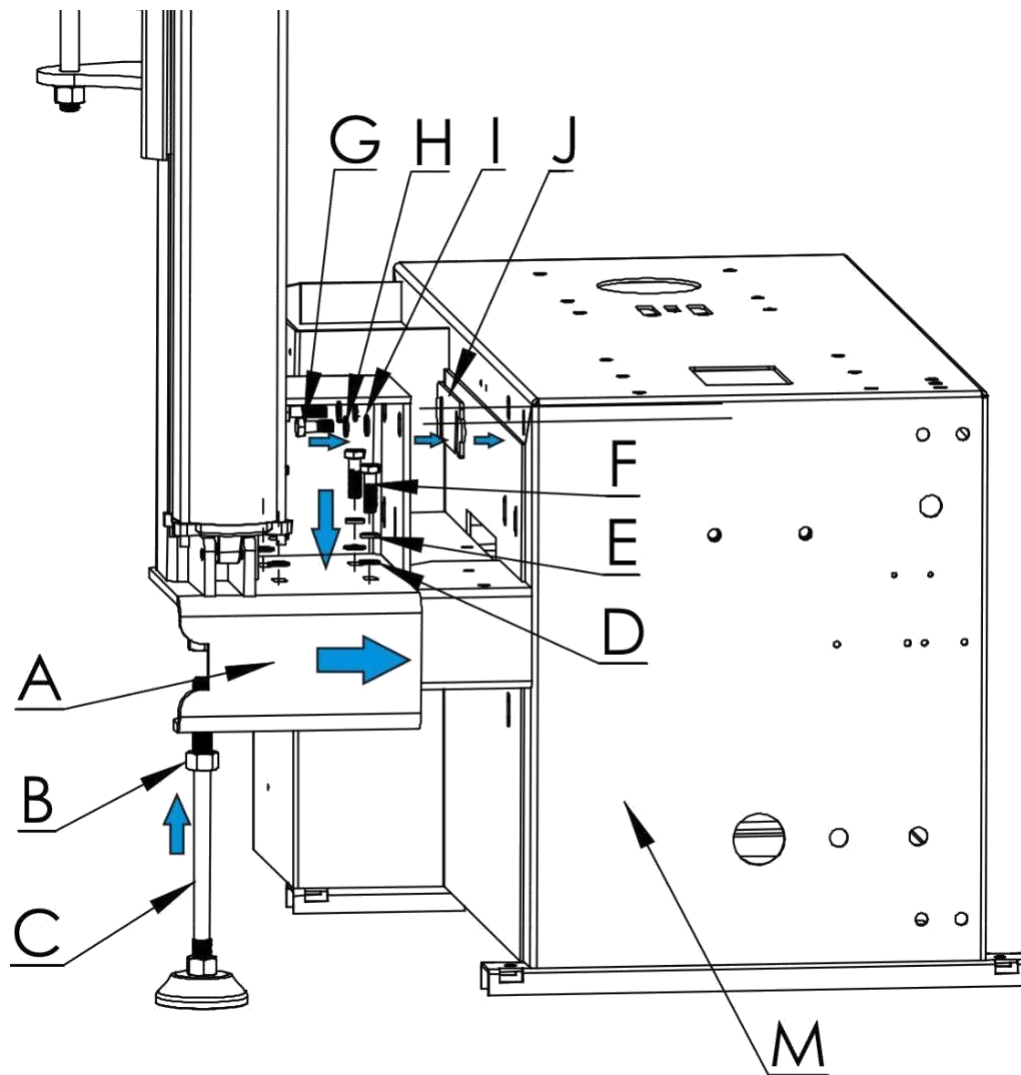

Fig.5
- ☐ As Fig.5, Put arm A onto frame M. Find and match installing holes. Install screw F(M10\*35), washer E and flat washer D downward; The same way, as the direction show in Fig. 5, install screw G(M10\*35), washer H and flat washer I into frame M, keep screw loose, put plate J on (Plate J is placed between arm and frame), tight six pieces screw with wrench.
- ☐ As Fig.5 Adjust support foot, keep it well touched with ground, tighten B (M16) upward.